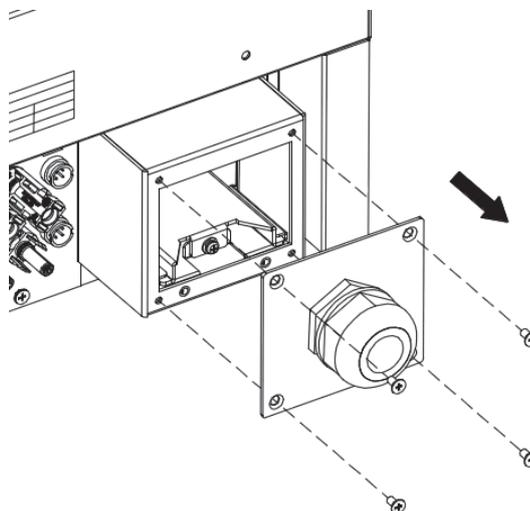

Figure 4.17 Unpacking the waterproof cover
(2) Disassemble the waterproof cover of the three-phase inverter AC junction box, as shown in Figure 4.17;